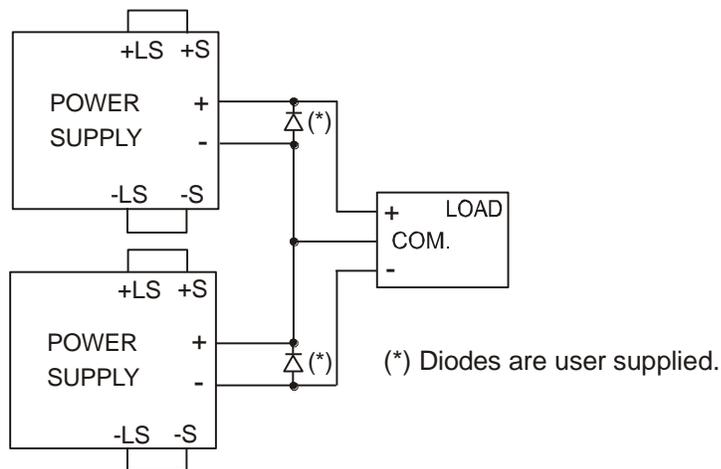

Figure 6-3. Series Connection for Positive/Negative Output Voltages
In this mode, two (2) units are configured as a positive and negative output. Set the Output current limit of each power supply to the maximum that the load can handle without damage. It is recommended that diodes be connected in parallel with each unit Output to prevent reverse voltage during the start-up sequence or in case one of the units shuts down. Each diode should be rated to at least the power supply rated Output voltage and Output current. Refer to Figure 6-3 for this operating mode.